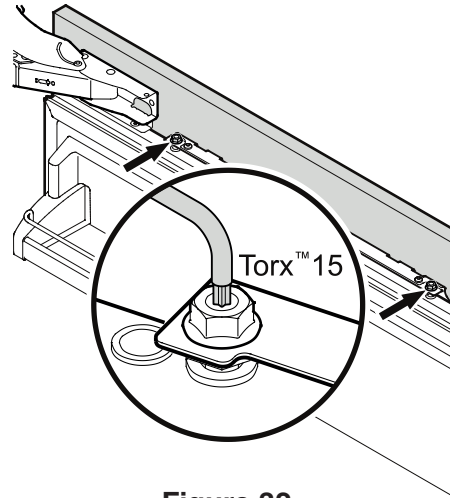

Figure 32
5. Align the panel in its vertical position if necessary. Loosen the hex nuts and turn the adjusting bolts (**Figure 32**).